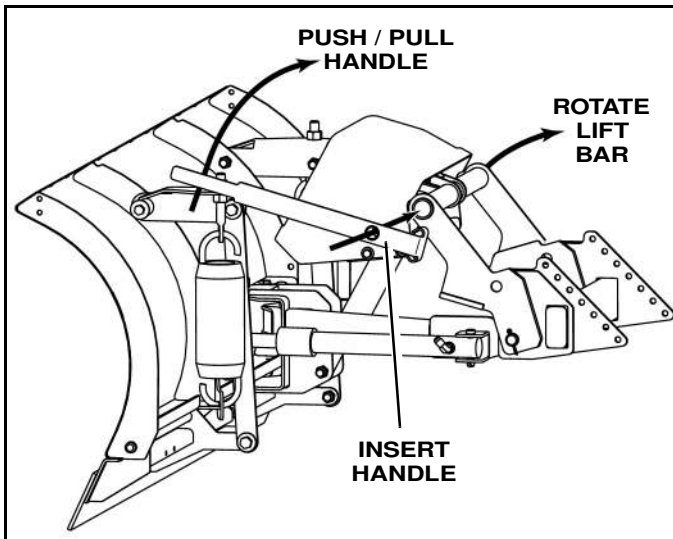

Figure 1-10
4. Insert handle into the lift bar tube and push or pull the handle toward the UTV to rotate lift bar into position. (See Figure 1-10).